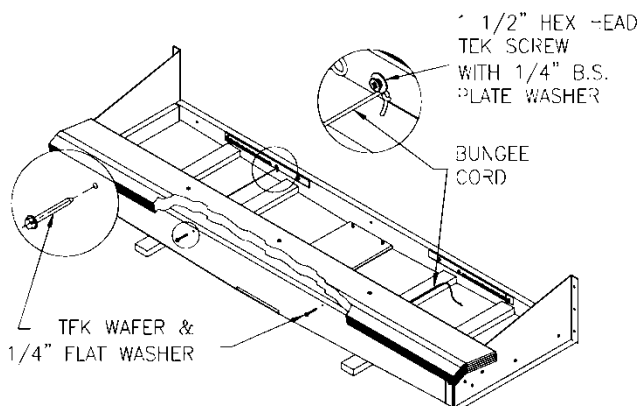

FIG. 6b
c. Remove tek wafer screws from front of head frame using # 3 square driver (Fig. 6b).
- Insert tek wafer and tighten, using 1/2" socket wrench (Refer back to Fig. 6b).